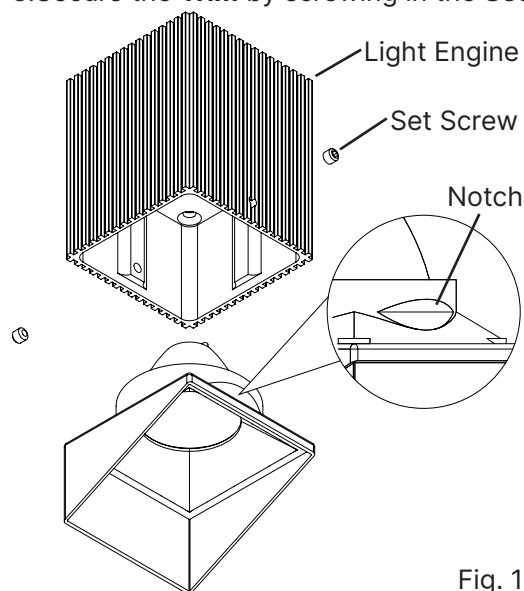

Fig. 1
1. Align **Trim** with **Light Engine**, make sure to align the **Notch** found on the Trim to the **Set Screw** found on the Light Engine (Fig. 1).